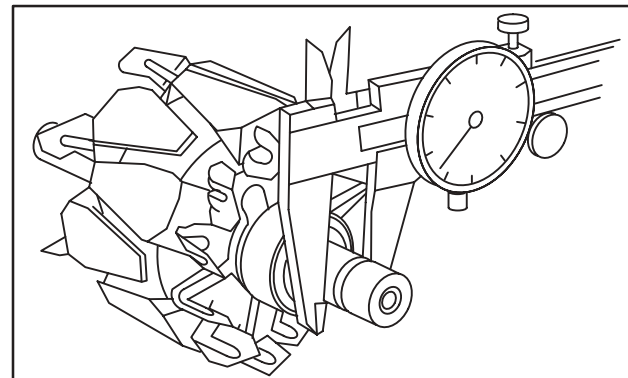

Fig. 32 – Check Slip Ring
3. Measure slip ring diameter, Fig. 32.